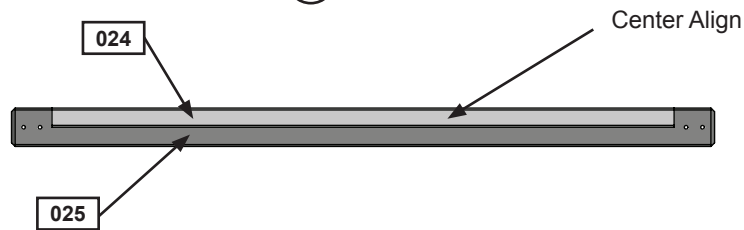

Fig. 2.9
F: Center 1 (024) Front Door Base Beam that it's flush with (026) Top Door Stop Panel and attach using 3 (S15) #8 x 1-3/4" Wood Screws. (Fig. 2.9 and 2.10)